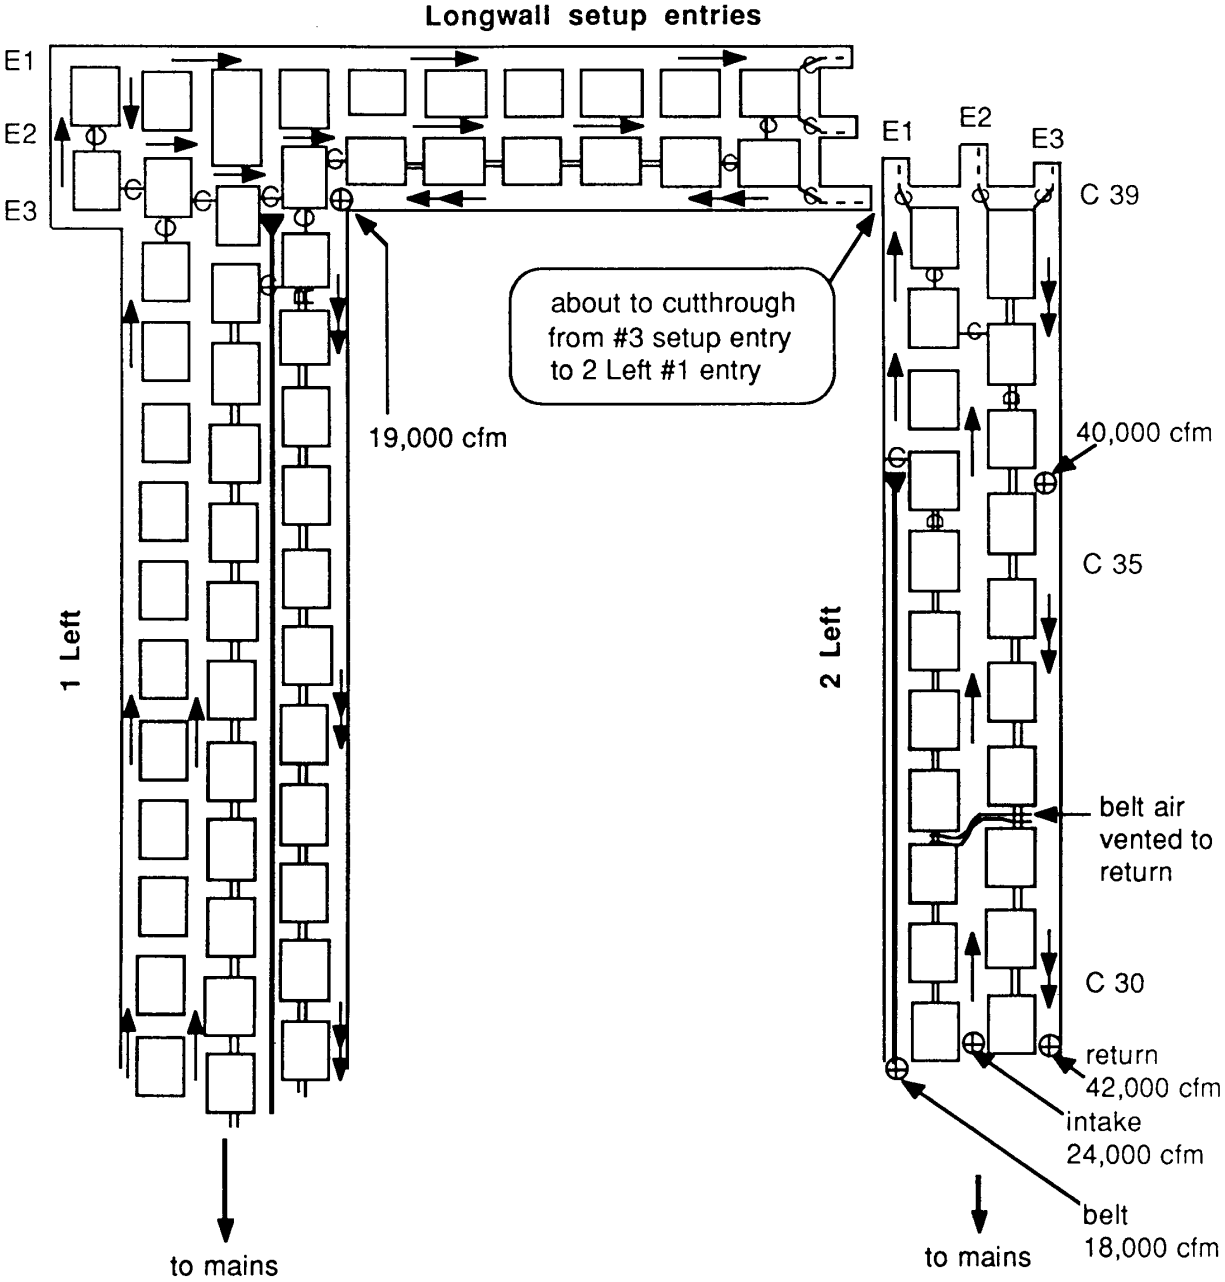
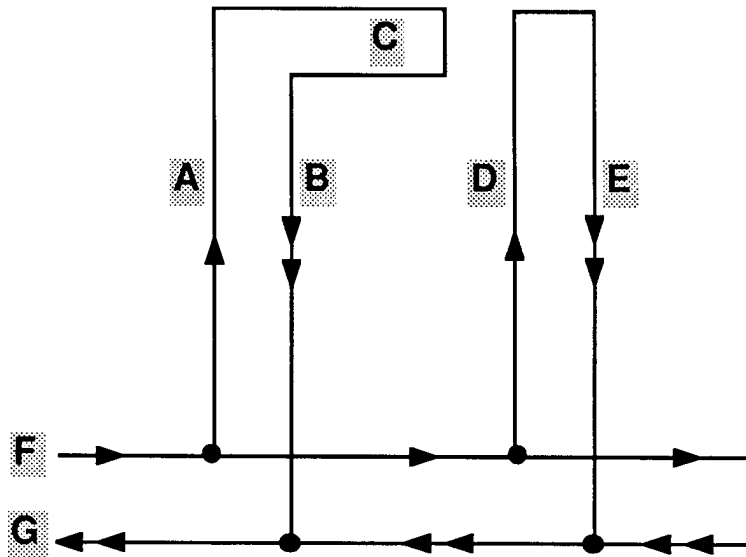
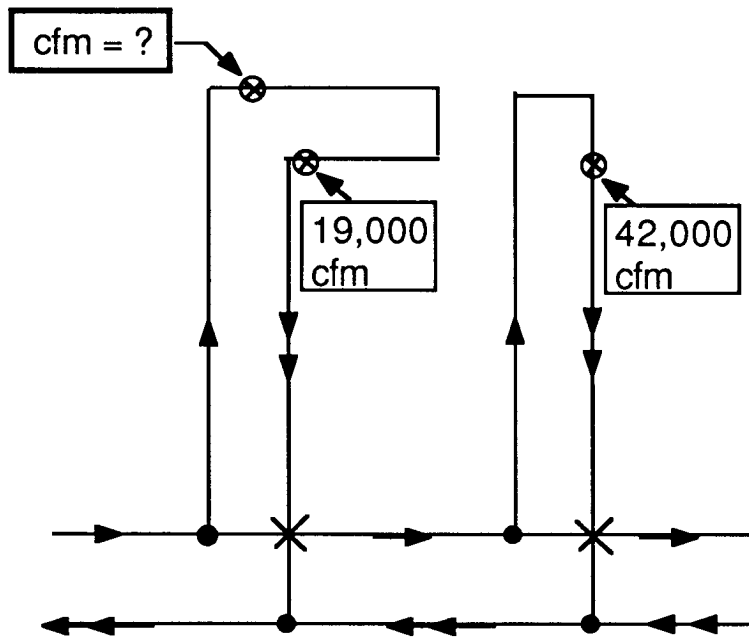

Figure 1: Mine ventilation before cutthrough from setup #3 entry to 2 Left section
Figure 2: Simplified ventilation schematic for the map shown in Figure 1
Figure 3: Estimate the airflow at the point indicated for the map shown in Figure 1
Question A The correct answer is number 2. The purpose of this question is to see if persons understand the schematic diagram. The diagram represents the main parts of the mine map shown in Figure 1.
Question B The correct answer is number 6. The schematic in Figure 3 shows that 19,000 cfm is flowing out the return air entry for 1 Left section. This section has only one split of intake air from the main intake air course, and only one junction with the return air course in the mains. There are no other connections between 1 Left and other sections in the mine. Excluding leakage from the section, the amount of air flowing in must equal the amount flowing out. Therefore, the intake airflow must also be 19,000 cfm.
Question C The correct answer is 13. From inspection of the map in Figure 1 and the schematic in Figure 3 the following points can be noted. First, both the 1 Left and 2 Left sections each get their air from a single split from the main intake airway. Second, both sections are about the same length. Third, the combined neutral and intake airflow into 2 Left is 42,000 cfm. The return airflow for 2 Left is also 42,000 cfm. Fourth, the return air flowing out of 1 Left is only 19,000 cfm (see the notes for Question B), and the intake airflow in 1 Left is also 19,000 cfm. Fifth, 2 Left has more than twice the total airflow of 1 Left. Sixth, the length and cross sections of the two sections are approximately equal. Seventh, the pressure of air available to both sections should be about the same because the two intakes and returns for the sections are fairly close to each other in the mains. Therefore, the quantity of air flowing to both sections should be approximately the same. From all this information it is apparent that there is a restriction somewhere in 1 Left that
Look at the map in Figure 1 on the next page. It shows two sections being driven 4,800 feet from the mains to develop a retreating longwall panel. The 1 Left section has four entries with a single air split. The 1 Left section crew has finished the entries and most of the longwall setup entries that will soon connect 1 Left with 2 Left. The 2 Left section has three entries with a single air split. The mine is very gassy. It liberates from 2.6 to 3.2 million cubic feet of methane a day at the fan that exhausts 690,000 cfm. The rib of the longwall panel along entry #1 in 2 Left section is especially gassy.
This exercise asks you questions about the ventilation arrangement for the sections shown in Figure 1. Study the map in Figure 1 on the next page. Then do the first question. Do each question in order. Don't jump ahead, but you may look back to earlier questions you have completed.
Figure 2 is a schematic diagram of the map in Figure 1. Study both Figures 1 and 2. Then read the four statements on this page. Select the one true statement. (Choose only ONE unless you are told to “Try Again!”)
1. The return air entry for 2 Left section is marked **D** in Figure 2.
2. The mains from which 1 Left and 2 Left sections are ventilated are marked **F** and **G** in Figure 2.
3. The longwall setup entries in Figure 2 are marked with an **A** and **B**.
4. The overcasts where the return air in 1 Left and 2 Left cross the main intakes are shown as black dots in Figure 2.
Look at Figure 1 again. Then look at Figure 3. Approximately how many cfm of air should be present in the 1 Left intake air entry at the point indicated on Figure 3? (Choose only ONE unless you are directed to "Try Again!")
Look at Figure 1 and Figure 3. Remember that the intake air entries for both 1 Left and 2 Left sections get their air from the same intake aircourse in the mains and that both sections also exhaust their return air into the same return aircourse in the mains. Assume the length and cross sectional areas of the two sections are the same.
Using the information about airflow distribution in Figures 1 and 2, where is there most likely to be a regulator? (Choose only ONE unless you are directed to "Try Again!")